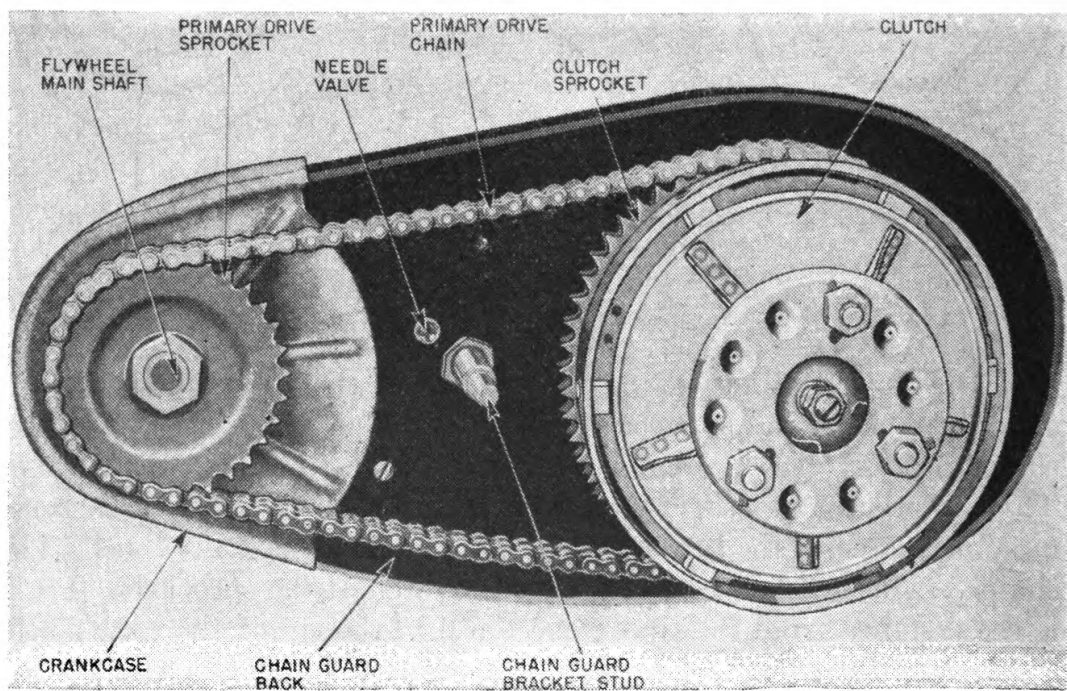

FIGURE 42.—Primary drive, oil pressure lubrication.
*b. Dry type.*—The primary drive shown in figure 42 (Harley-Davidson) operates in a dry case. An adjustable needle valve, connected to the engine lubrication system, directs a stream of oil at the chain.